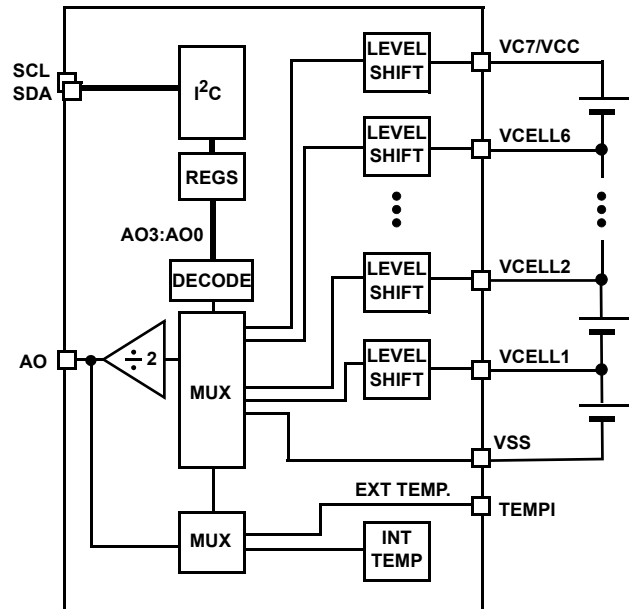

FIGURE 6. ANALOG OUTPUT MONITORING DIAGRAM
The ISL94200 devices can be used to externally monitor individual battery cell voltages and temperatures. Each quantity can be monitored at the analog output pin (AO). The desired voltage is selected using the I2C interface and the AO3:AO0 bits. See Figure 6.